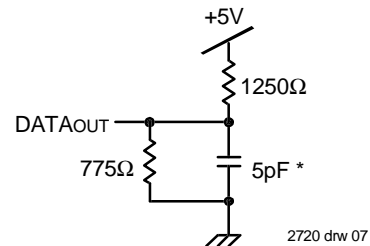

Figure 2. Output Test Load
1. Transition is measured $\pm 500\text{mV}$ from Low or High-impedance voltage with the Output Test Load (Figure 2).
1. Transition is measured $\pm 500\text{mV}$ from Low or High-impedance voltage with Output Test Load (Figure 2).